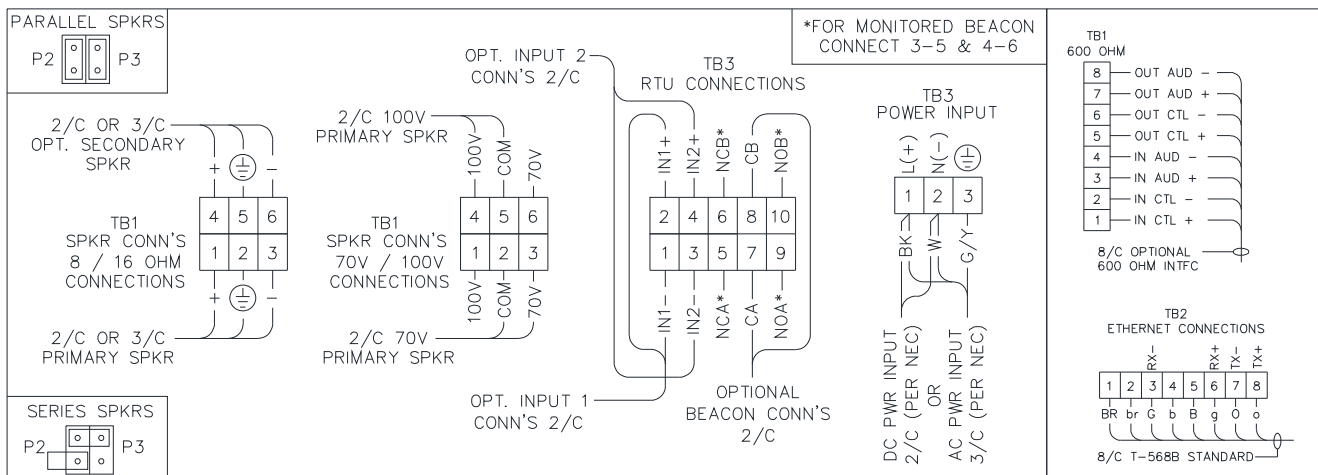

Figure 4. HUBBCOM Termination and Main PCBA Connections
The HUBBCOM station provides terminal blocks on the termination PCBA located in the rear enclosure, for field wiring the power, speaker, and RTU connections. The main PCBA, mounted to the back of the front panel, provides pluggable terminal blocks for the Ethernet network and 600-ohm audio connections (see Figure 4).
5. Configure the speaker jumpers, P2 and P3, for the impedance of the connected speakers (see Figure 4).